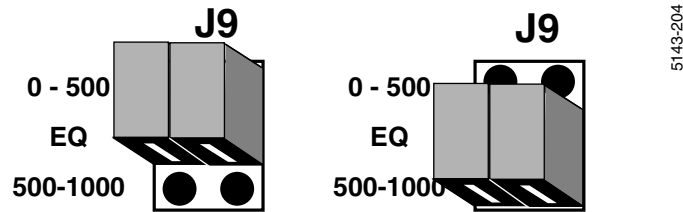

Figure 2-46. Jumper Block Orientation
4. Install/move the jumper block at either J9 or J12 to the appropriate position for either 0–500 feet of cable length or 500–1000 feet cable length as shown in Figure 2-46 below.